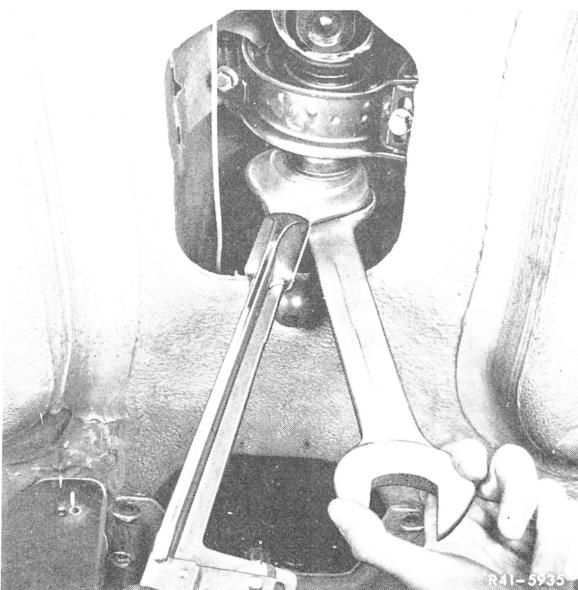

Fig. 12
**26** Move vehicle several times back and forth in condition ready for driving, then tighten clamping nut on propeller shaft to 30–40 Nm (3–4 kpm) (Fig. 12).